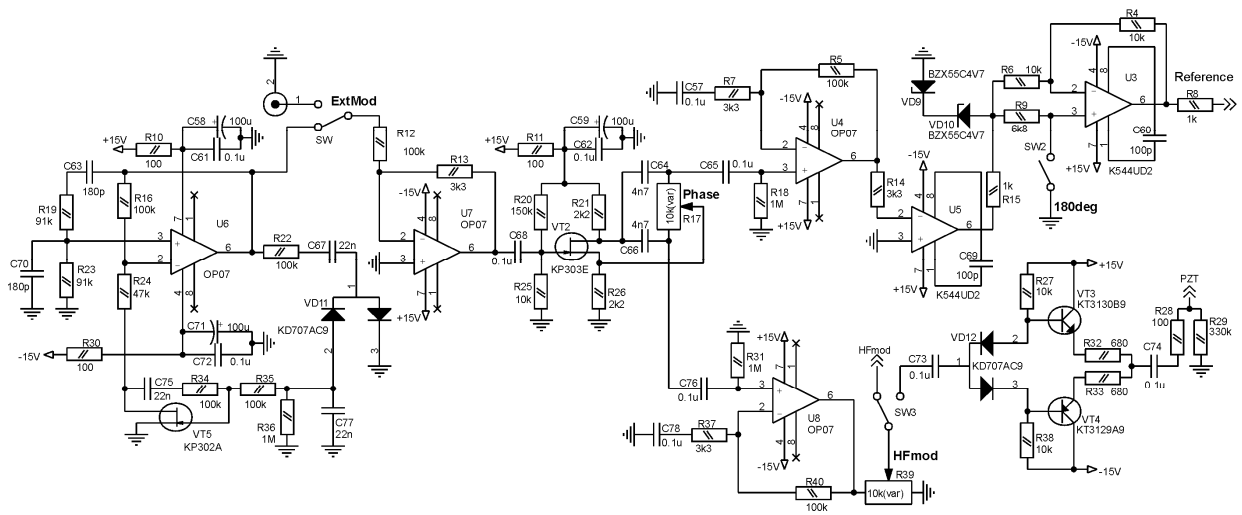
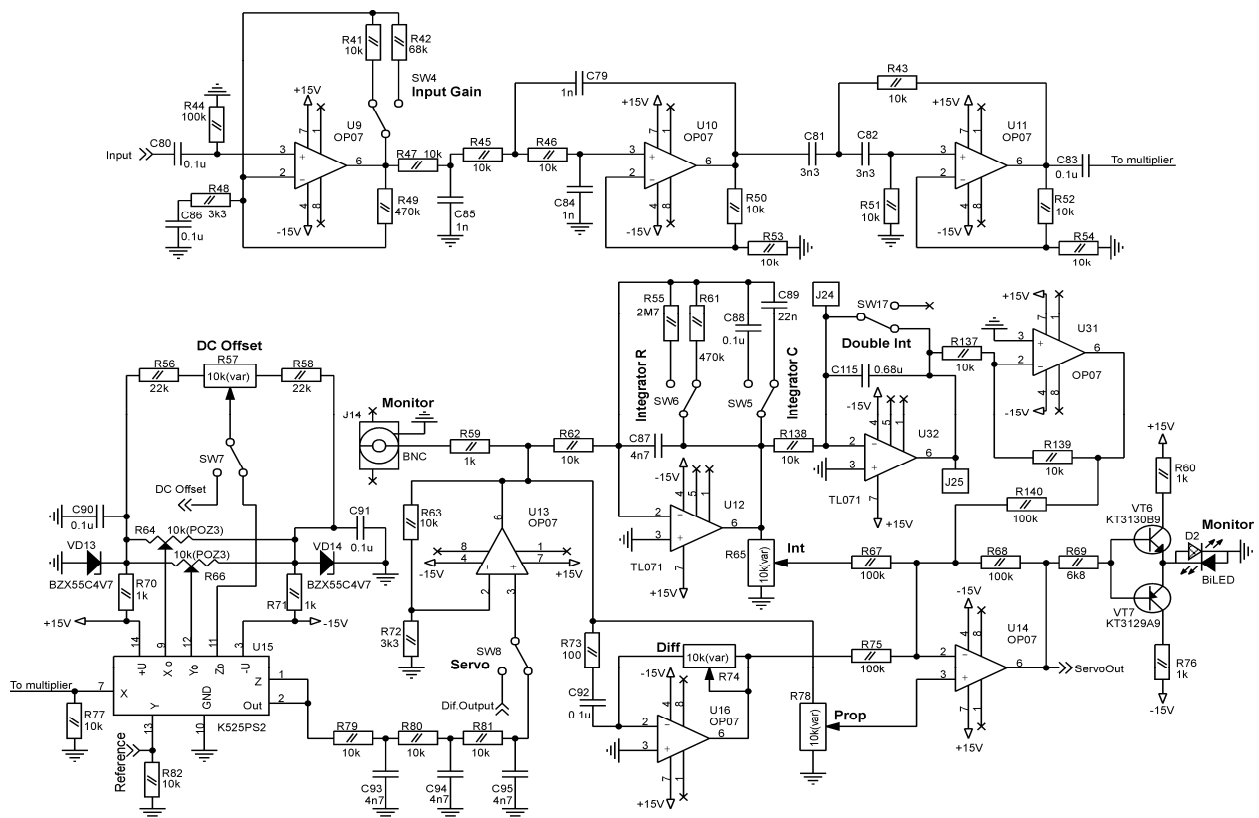
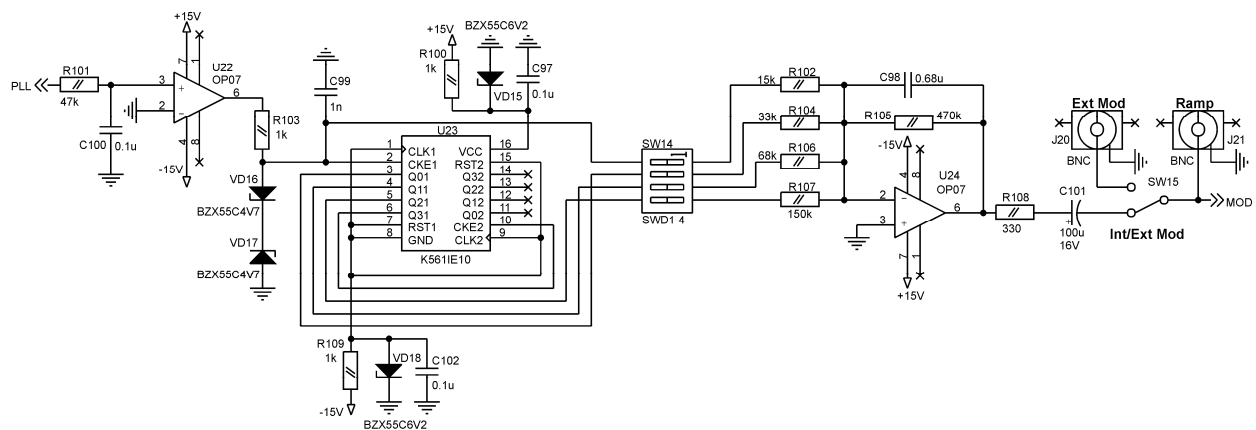
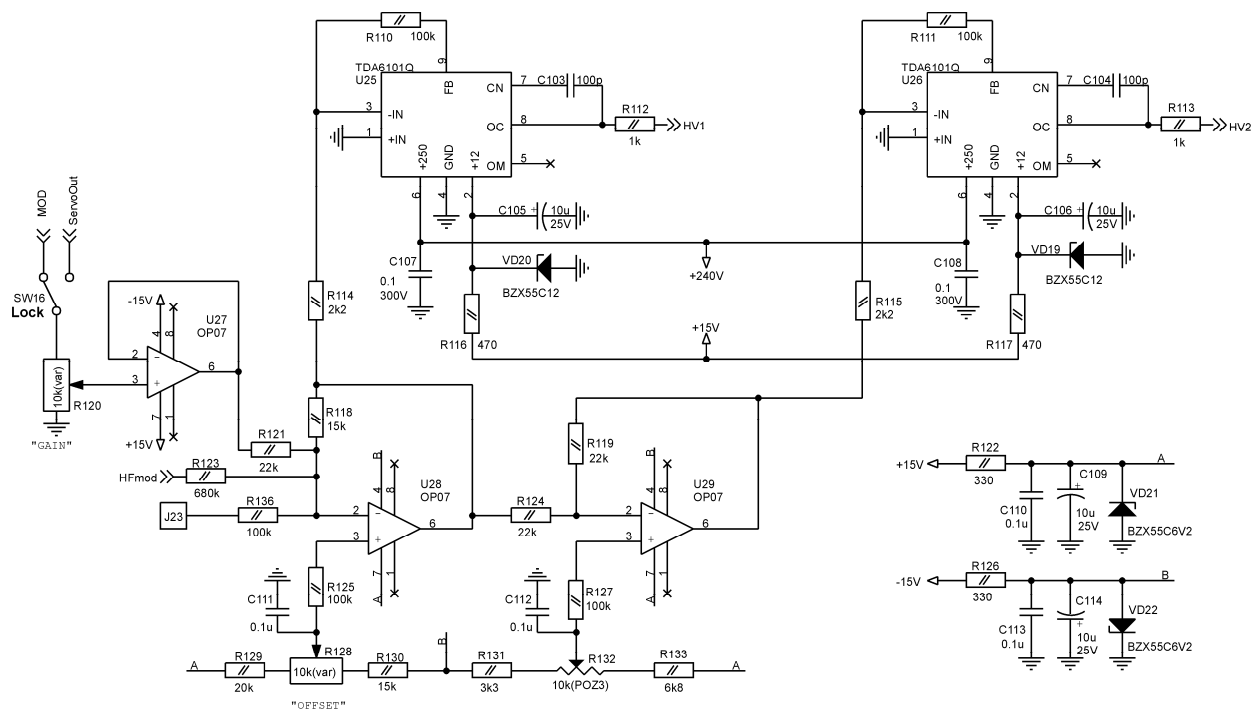

Fig.4. The circuit of the sine-wave oscillator, the phase shifter, and the power amplifier
Fig.5. The circuit of the input amplifier, the low-pass and high-pass filters, the multiplier, and the PID-regulator
Fig.8. The circuit of the triangular-wave generator
Fig.9. The circuit of a high-voltage amplifier
The built-in generator (position 1 of Fig.1 and U6 on Fig.4) produces sine wave of about 10 kHz. The phase shifter (pos.2 of Fig.1 and VT2 on Fig.4) converts this signal into two signals whose relative phase can be changed in the range of 320° . One of these signals (i.e. reference – U4, U5, and U3 on Fig.4) is directly coupled to an analog multiplier (pos.6 of Fig.1 and U15 on
Fig.5), and another one (i.e. modulation, U8 on Fig.4) is used to modulate the frequency of a laser or of an optical resonance. The regulator of the modulation amplitude (R39 on Fig.4) and the output of modulation (BNC-connector) are located in the MODULATION zone of the LIHV200. The maximum amplitude of modulation at the output is about $3V_{p-p}$. By default the signal of modulation is coupled also to the input of a high-voltage amplifier (HVA – pos.11 of
Fig.1 and the circuit on Fig.9), that allows controlling piezo-elements (PZT) of a laser or a reference cavity. The modulation signal can be redirected from the HVA to a power amplifier (VT3, VT4 on Fig.4) or can be completely disconnected from the both of them by the jumper on the circuit board of the lock-in amplifier (SW3 on Fig.4 and Fig.10). The jumper SW3 is accessible when the upper lid of the LIHV200 is open.
The LIHV200 can operate under conditions of external modulation. In that case the input of the phase shifter (U7 on Fig.4) must be switched over (jumper SW on Fig.1 and Fig.4) between the output of the built-in generator and the input of an external signal (the BNC connector ExtMod on the rear panel). The ExtMod switch is located on the circuit board of the LIHV200 (Fig.10).
The optically detected signal is amplified (pos.3 of Fig.1 and U9 on Fig.5) with three possible levels of the gain (L – low, H – high, M – medium). The input BNC-connector (J16) and the gain switch (SW4) are in the INPUT zone of the front panel. The medium gain corresponds to the input signal of about 50 mV_{p-p}. L-position of the switch tenfold reduces the gain; H-position tenfold increases it. The amplified signal is then filtered to minimize the influence of low-frequency noise and quadratic component in the detected signal, since the detected 2f-component shifts the zero level of the lock-in output. The high-pass and low-pass filters (pos.4, 5 of Fig.1 and U10, U11 on Fig.5) are preset according the modulation frequency, and they have corner frequencies at 5 kHz and 15 kHz respectively.
The relative phase of the input and reference signals can be adjusted gradually with the potentiometer or step changed by the switch (R17 and SW2 on Fig.4) which are located in the PHASE zone.
An analog multiplier (pos.6 of Fig.1 and U15 on Fig.5) gives at the output the voltage proportional to the product of the detected and reference signals. The product contains the 2f-component (see the expression on the page 1), which is filtered then (R79-81, C93-95 on Fig.5) to get the derivative-like signal. The BNC-connector MONITOR in the OUTPUT zone of the LIHV200 enables observing the filtered output of the multiplier. The trimmer ZERO in the same zone changes DC level at the multiplier output (R57 on Fig.5). This gives possibility to shift locking point in respect to the extreme of an optical resonance.
To get reliable and stable frequency lock the gain in the feedback loop must be precisely set according to the frequency response of the controllable object (a mirror attached to a piezo-mount, laser current, galvano-drive, etc.). This task is solved using PID-regulator, which has three parallel arms with different transfer functions. The output of the proportional amplifier (pos.7 of Fig.1 and U13 on Fig.5) is frequency independent. The gain of the integral amplifier (pos.8 of Fig.1 and U12 on Fig.5) reaches the maximum at very low frequencies and tends to zero at high frequencies. The differential amplifier (pos.9 of Fig.1 and U16 on Fig.5) has inverse
in respect to the integral one frequency behavior. The gain (or the corner frequency) of each arm can be set independently, and the overall gain is the sum of them (pos.10 of Fig.1 and U14 on Fig.5).
The time constant of the integrator is step changed with the switch C in the INTEGRATOR zone. The feedback capacitance (C_i on Fig.1 and C87-89 on Fig.5) equals 4.7 nF at the L-position of the switch (low capacitance), 22 nF at the M-position (medium), and 100 nF at the H-position (high). The shunt resistor (R_i on Fig1 and R55, R61 on Fig.5) limits the integrator gain at very low frequencies to prevent the gain saturation and to facilitate the capacitance discharge. The switch R in the INTEGRATOR zone sets three available values of the shunt resistor: L – 470 kOhm, M – 2.7 MOhm, and H – no resistor at all.
The trimmers P (R78 on Fig 5.) and D (Rd on Fig.1 and R74 on Fig.5) in the GAIN zone set the gain of the proportional amplifier and the time constant of the differentiator respectively. The output of the sum amplifier is coupled to the right BNC-connector in the OUTPUT zone, and the dichromatic light emitting diode MONITOR located in the same zone displays the voltage level at the output of the sum amplifier. It lights red if the voltage is above 2V, and it lights green if the voltage is below $-2V$. Thus, at the in-lock condition the absence of light evidences the stable lock, while the light appearance indicates that the system tends to go out of lock.
The LIHV200 is supplemented with a triangular-wave oscillator (Fig.8) and a high-voltage amplifier (HVA, pos.11 of Fig.1 and Fig.9). The internal ramp can modulate the output of the HVA at the line frequency and its sub-harmonics f , $f/2$, $f/4$, $f/8$. To set the ramp frequency only one corresponding jumper of the DIP-8 switch (SW14 on Fig.8) must be set in position ON. The switch is located on the circuit board (Fig.10). The frequency $f/2$ (that is 30 Hz for